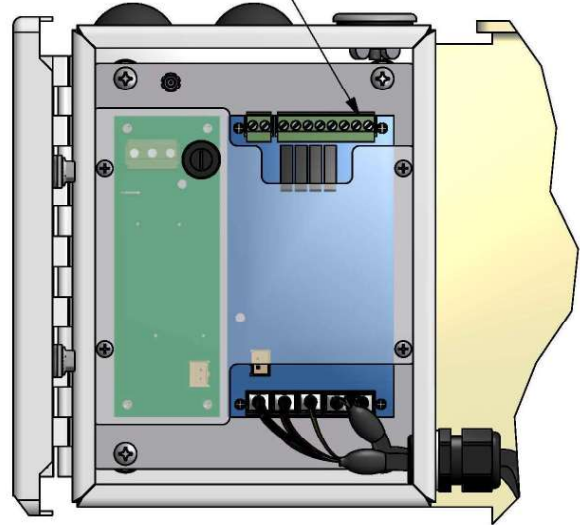

Figure 47: Jumper on Electrical Box
1. Open the control box cover and remove the electrical jumper located on terminal block X1. See Figure 47.